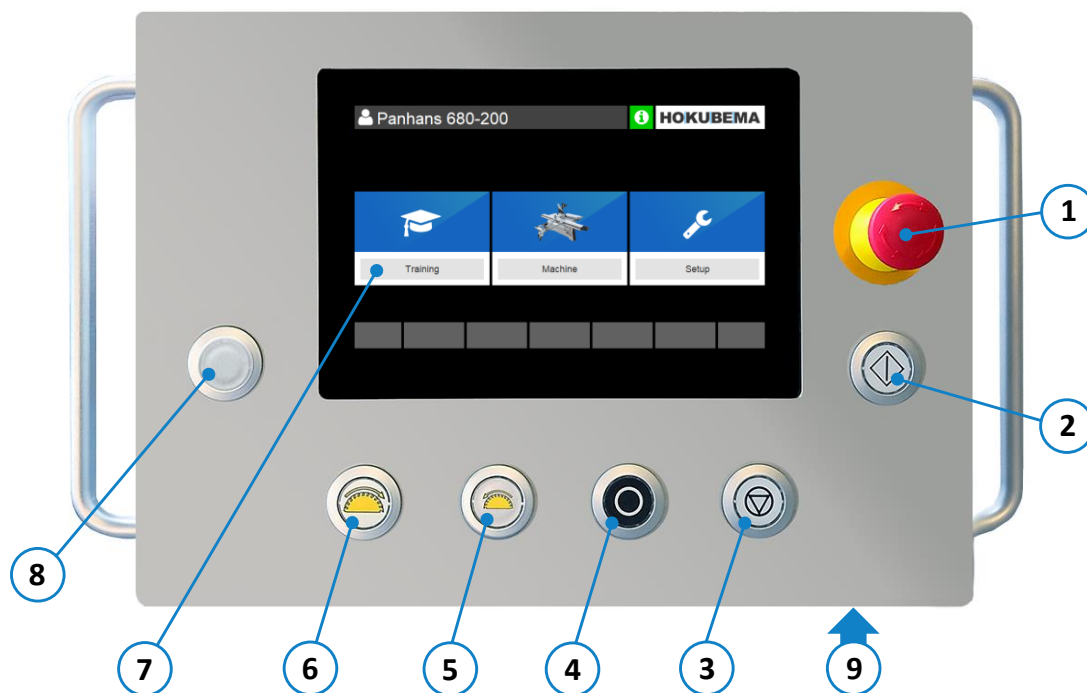

Figure 26: Control elements
5. The rip fence positions itself automatically after pressing the positioning button (2) (see ⇒ Figure 26).